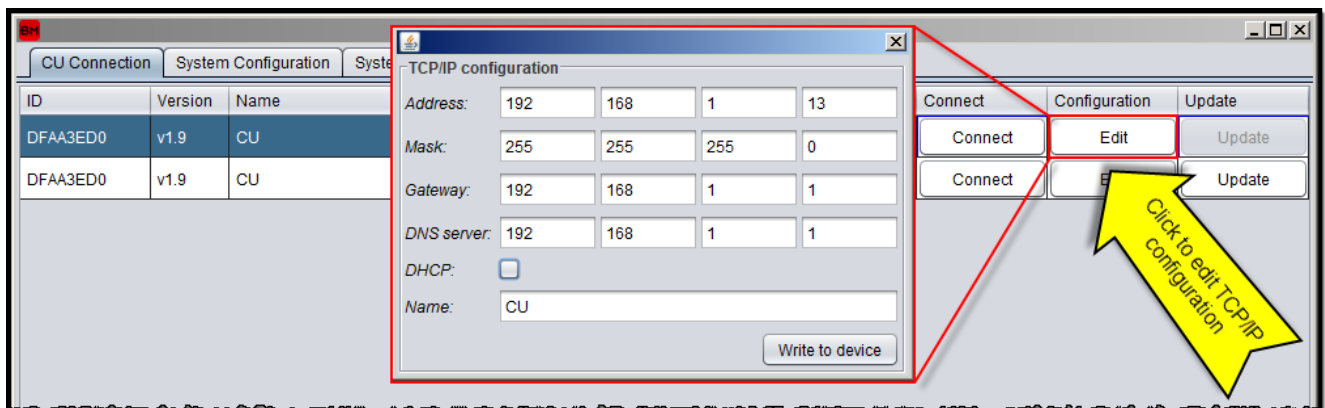

Figure 26: CU connection TCP/IP configuration
- The CU is shipped by default with a dynamic IP address (DHCP) which should fit most of the uses. In case the CU must be run with a different setting, the user can click on the **“Edit”** button to open the TCP/IP configuration dialog as shown in Figure 26. Insert the desired values in the dialog and click on **“Write to device”** button to store the new setting in the CU.